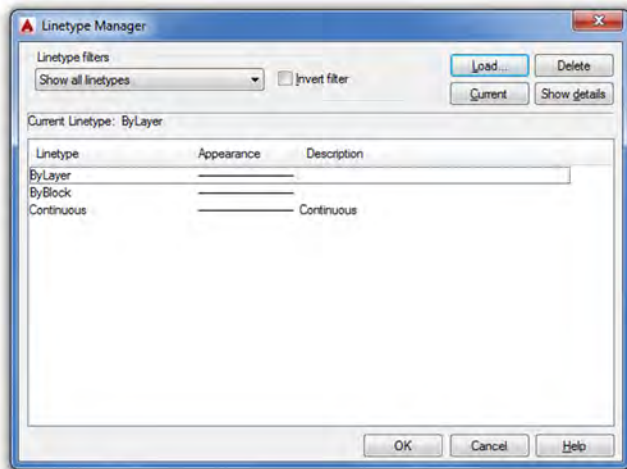

FIGURE 3.7
Step 1. Type in `linetype` and press Enter or choose `Format→Linetype...` from the cascading menu. The Linetype Manager (Figure 3.7) appears. If it is full of linetypes, it means they have been loaded earlier. If not, and the Linetype Manager is empty, go on to Step 2.